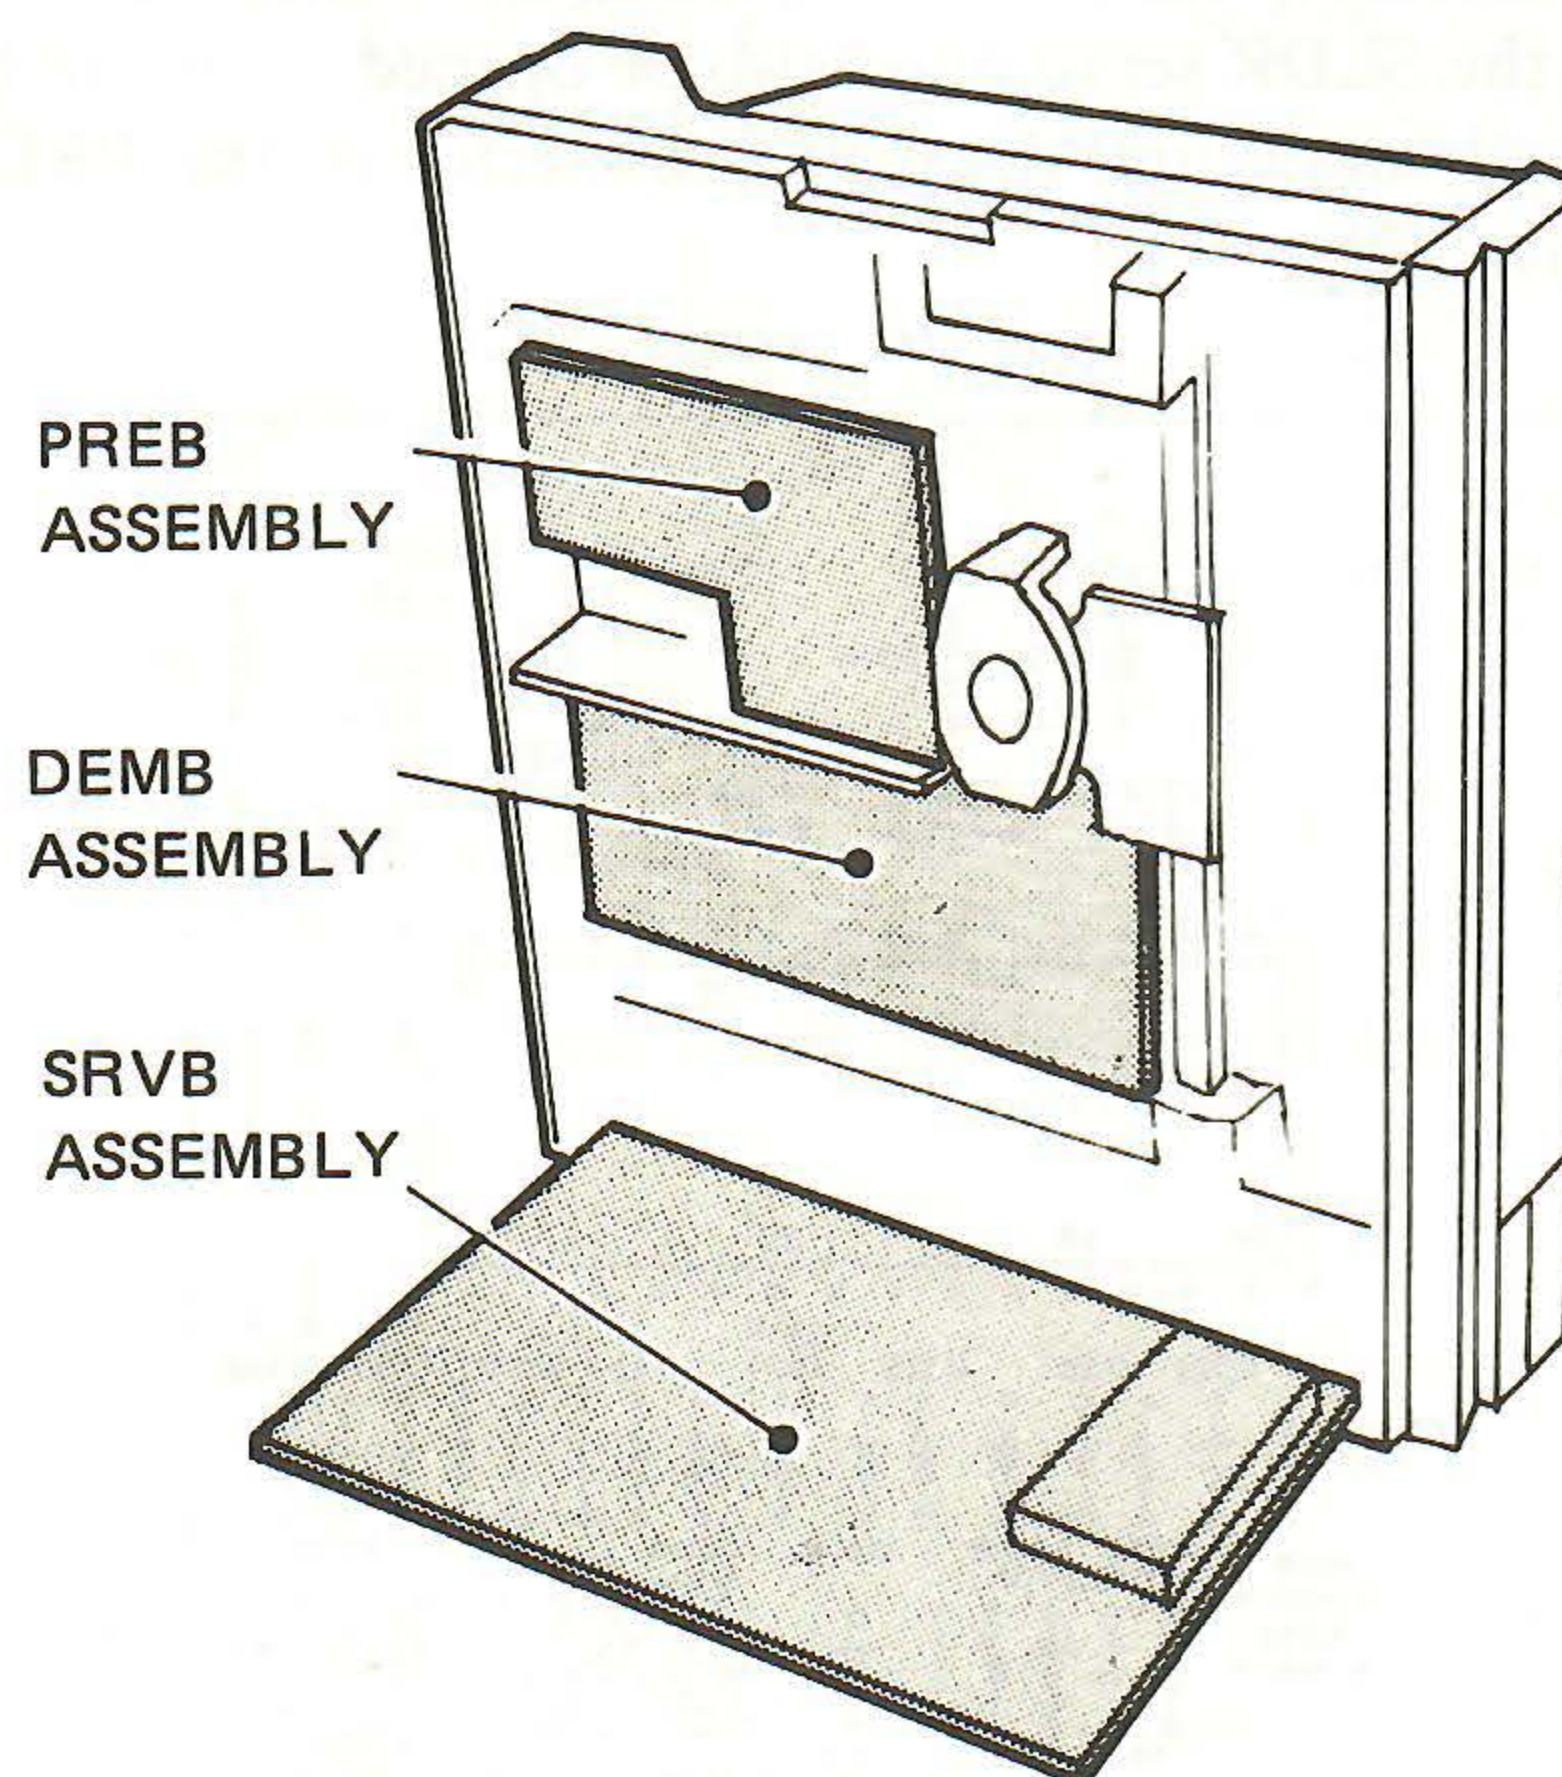

Fig. 10-5 Player status during adjustment
7. Load the LD test disc with the player in the status shown in Fig. 10-5.